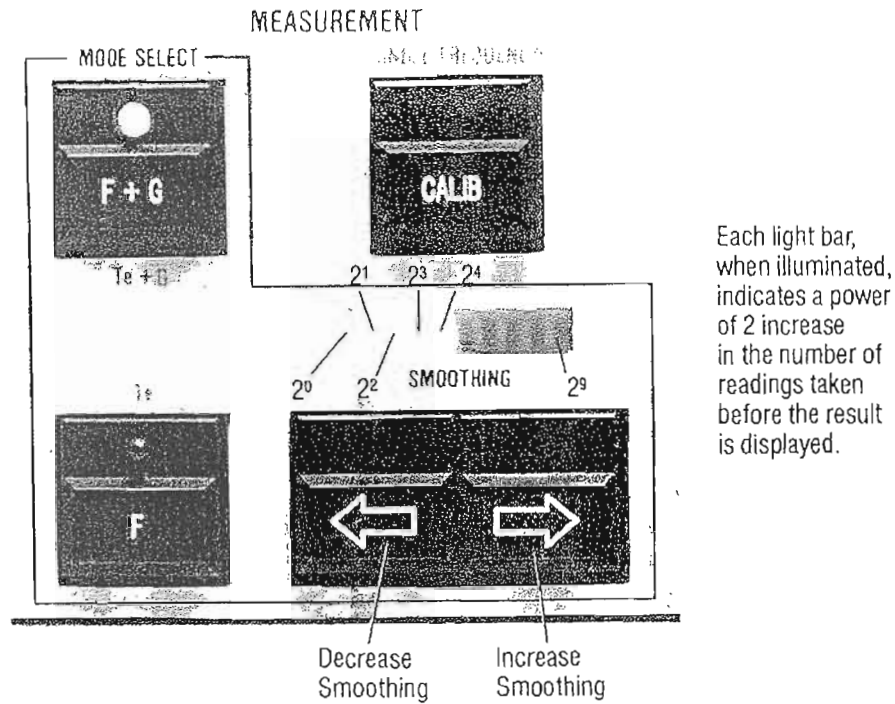

Figure 3-32. SMOOTHING INDICATOR
Smoothing is increased or decreased in powers of two. The smoothing indicator is a group of ten LED light bars. The leftmost bar represents 2 to the 0 power. The rightmost bar represents 2 to the 9th power. When minimum smoothing is in use, only the leftmost bar is lit and this indicates that 2 to the 0 power (1) readings are taken and averaged before the result is displayed. Each additional bar, when lit, indicates an increase, by a power of two, in the number of readings taken and averaged before displaying the result. When all the bars are lit, 2 to the 9th power (512) readings are taken and averaged together before the result is displayed. See Figure 3-32.